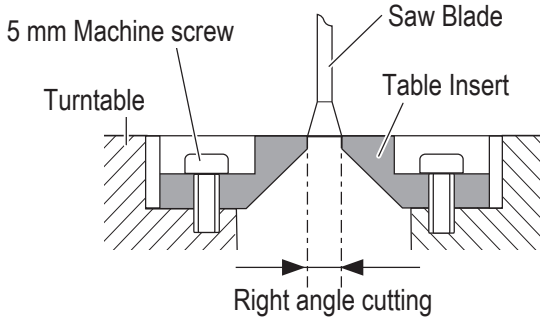

Fig. 17-a
(2) Left and right bevel angle cutting (Fig. 17-b, Fig. 17-c)